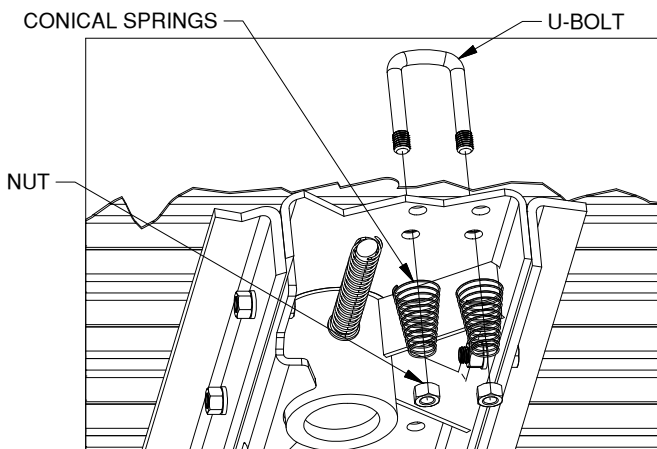

Figure F3: Cutaway view of bed and center section.
3. **Add springs.** Place a conical spring over each leg of the U-bolts and secure with a 1/2" lock nut, see Figure F3. Tighten the lock nut until the nut is flush with the end of the U-bolt.